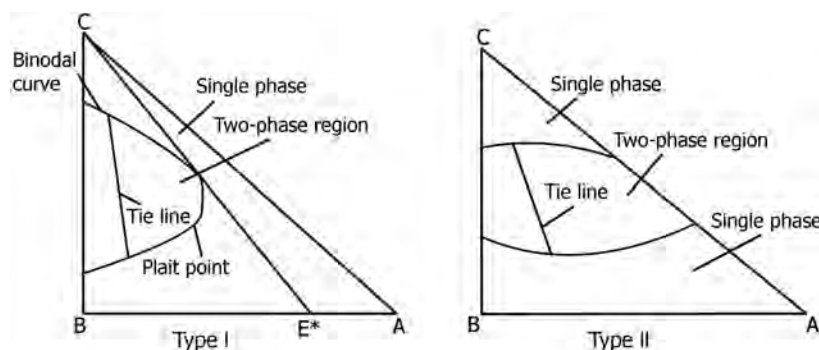

FIGURE 17.44 Triangular diagrams for Type I and Type II liquid-liquid equilibria.
- Liquid extraction exhibits at least two common forms on the triangular diagram. Figure 17.44 shows both